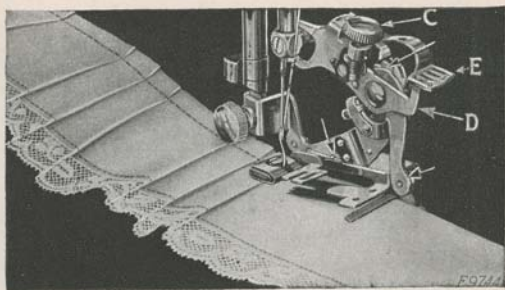

FIG. 58
The ruffler can be adjusted for group plaiting by lifting the adjusting lever (E, Fig. 58) and moving
it to the right so that the top of the projection (D, Fig. 58) enters the small slot indicated by the star on the adjusting lever. This should be done at the points where you wish to make the space between the plaits. The ruffler will then stop and plain stitching will be made. When the desired space has been made, adjust the lever (E) so that the projection (D) enters either the slot marked "6" or the slot marked "12". By alternately making groups of plaits and plain spaces, as shown in Fig. 58, very attractive work can be produced.
Occasionally apply a drop of oil to the working parts of the ruffler at each of the places indicated by the unlettered arrows in Fig. 58. After oiling, operate the ruffler on a waste piece of material to prevent the oil soiling the work. If the ruffler does not plait evenly, a drop of oil may remedy the trouble.